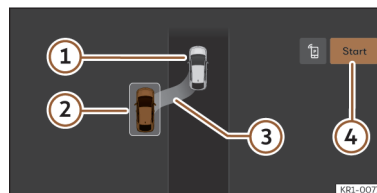
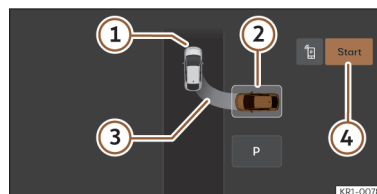

Fig. 153 On the infotainment system display: parallel parking position.
Fig. 154 On the infotainment system display: parking bay parking position.
>>> Fig. 153, >>> Fig. 154
- ① Your vehicle
- ② Parking space detected
- ③ Indication showing the proposed parking manoeuvre
- ④ Start parking manoeuvre
- Look at the display on the infotainment system's screen to see if the space has been detected as "appropriate" and if the correct position for parking has been reached >>> Fig. 153, >>> Fig. 154. Stop the vehicle and follow the instructions shown on the infotainment screen.
- Stop the vehicle, press the brake and, after a short pause, press the **Start** ④ button in the infotainment system.